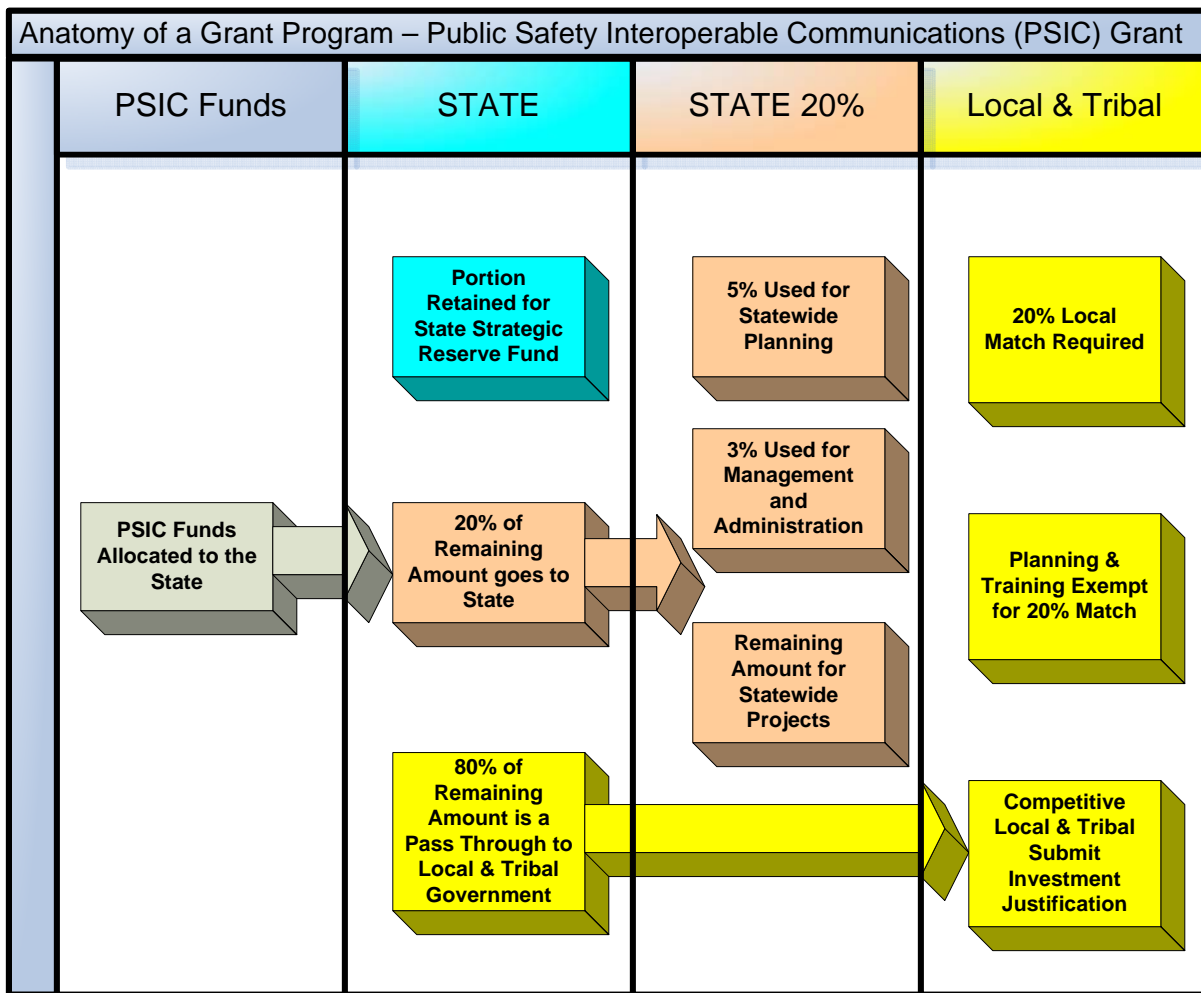

Figure 6 – Anatomy of a Grant Program
- **Grant Sources** – Many communications systems are taking advantage of Federal and State grant sources (see Anatomy of a Grant Program in Figure 6 below).